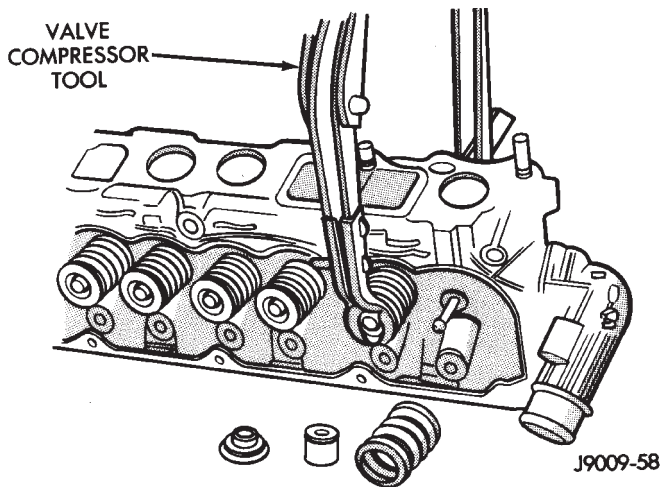

Fig. 18 Valve Compressor Tool C-3422-B (J-8062 or 8014)
- (1) Remove the engine cylinder head from the cylinder block.
- (2) Use the Valve Compressor Tool C-3422-B (J-8062 or 8014) and compress each valve spring (Fig. 18).
- (3) Remove the valve locks, retainers, springs, and valve stem oil seals. Discard the oil seals.
- (4) Use an Arkansas smooth stone or a jewelers file to remove any burrs on the top of the valve stem, especially around the groove for the locks.
- (5) Remove the valves, and place them in a rack in the same order as removed.